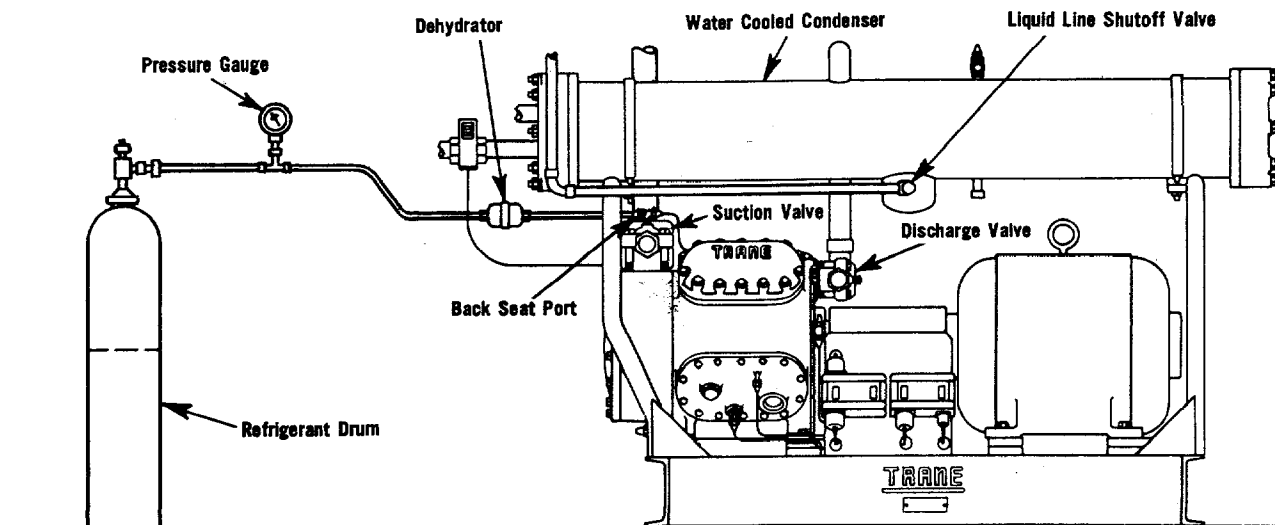

FIG. 14 Low Side Charging
2. The charging line from the refrigerant drum to the back-seat port should be connected as shown in Figure 14. Air should be purged from the charging line before tightening the connection. Refrigerant should be charged into the system through a suitable dehydrator.